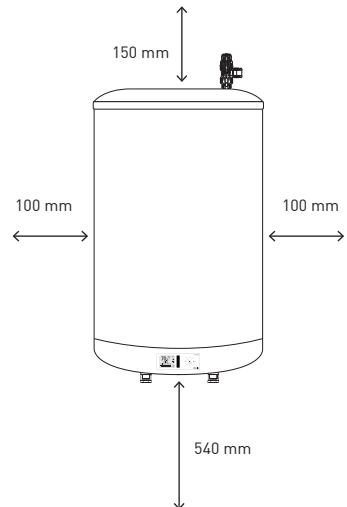
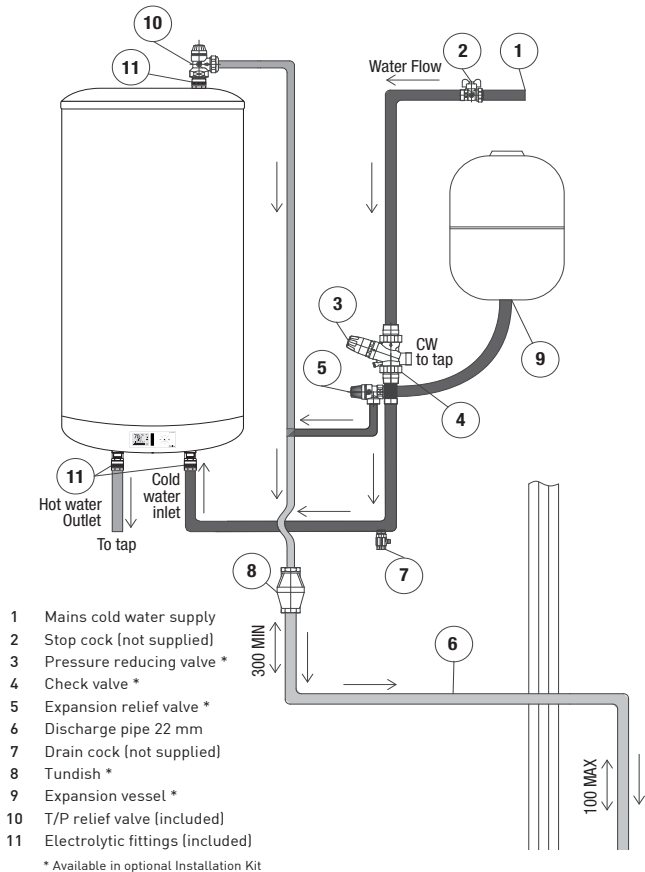

Fig 1 - Minimum margins for servicing and repairs.
Figure 2
To allow for servicing and repairs the unit must be mounted at least 540 mm above any surface or object, so that access can be gained to electric connectors and the heating elements may be removed (see Fig 1).
3.7. Pipework connections – All pipework connections to the cylinder **MUST** be made in accordance with Fig 2.
4.1. Connections. Connections **MUST** be made to the cylinder in accordance with Fig 1, and Fig 2. A drain cock (not supplied) should be fitted in the position shown in Fig 2 to facilitate draining of the cylinder.
The outlet of the T/P valve should be routed in 15 mm copper piping in a downward direction alongside the water heating unit to the tundish in a frost-free environment. The outlet of the expansion relief valve must be T'd into this pipe before the tundish so that any water exiting either valve can be seen draining through the tundish– see figure 2 and 3.
4.5. Pressure reducing valve – The pressure reducing valve should be installed in the cold water supply to the water heating unit with the arrow pointing in the direction of water flow as shown in figure 2. This can be connected to a maximum supply pressure of 0.9 MPa.
4.6. Expansion relief valve – This must be installed between the pressure reducing valve and the water heating unit in accordance with Figure 2. No other valve should be fitted between this valve and the cylinder. The expansion relief valve contains a non return valve.
4.7. Expansion vessel – A suitable expansion vessel with a pre-charge pressure of 0.15 or 0.3 MPa is available in an optional kit for fitting to all water heating units in the range. The expansion vessel **MUST** be fitted to the safety group. The expansion vessel **MUST** be positioned with the entry point at the bottom – see Figure 2.
IMPORTANT: Regular checks must be carried out to ensure that the expansion vessel is correctly pressurised to 0.15 or 0.3 MPa at all times. – see Figure 2.
- 7.4. Drain the cylinder – When draining the cylinder, always switch off the water heater. Turn off the water supply at the stopcock (see Fig 2). Connect a hosepipe to the drain cock (see Fig 2) and route it to a convenient gully. Open the drain cock and all hot taps that are served by the cylinder. The cylinder may take several minutes to empty completely.